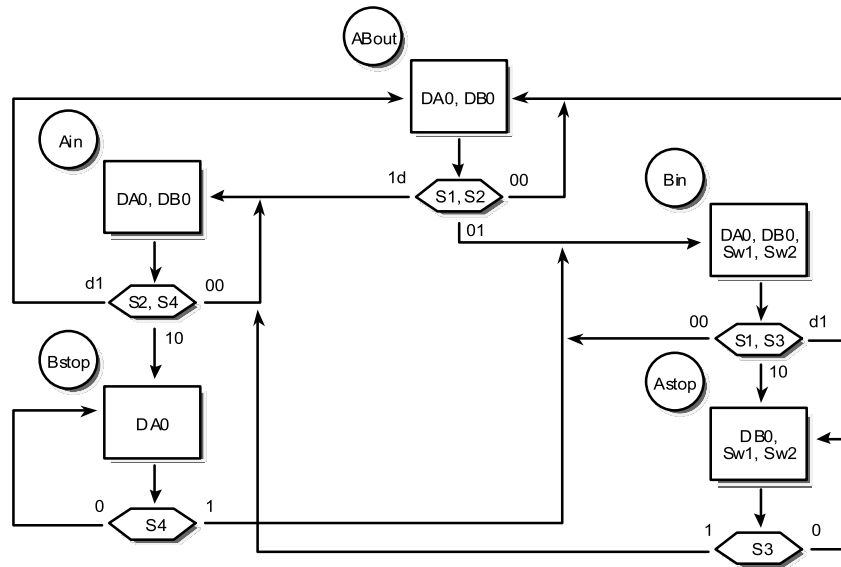
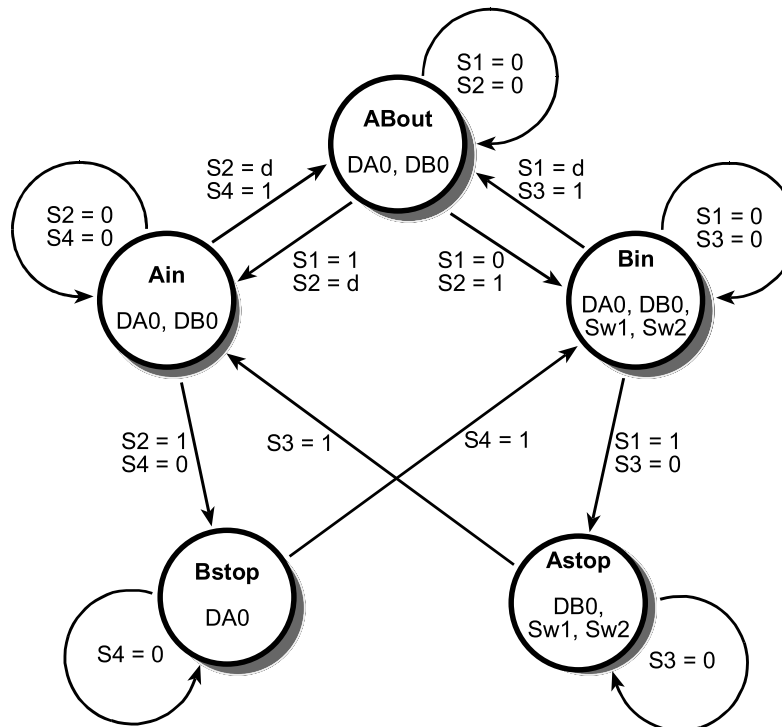
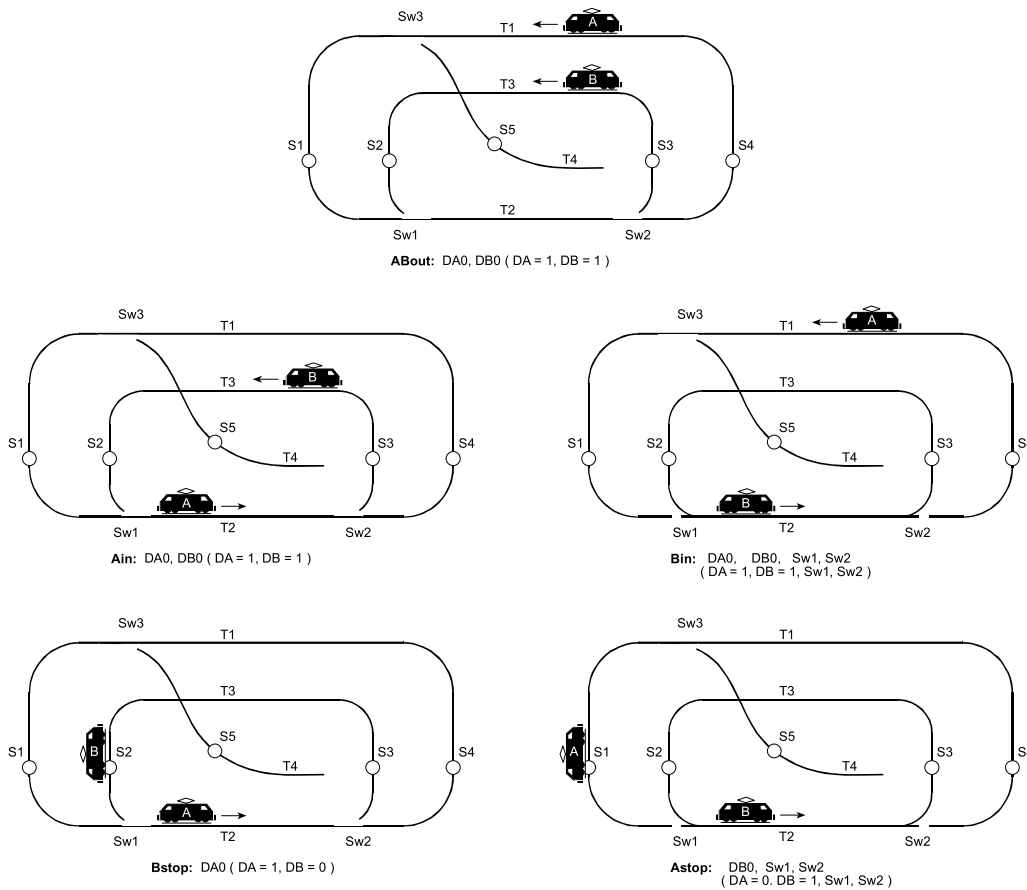

Figure 8.5 Example Train Controller ASM Chart.
Figure 8.6 Example Train Controller State Diagram.
Figure 8.7 Working diagrams of train positions for each state.
We will now examine a working example of a train controller state machine. For this controller, two trains run counterclockwise at various speeds and avoid collisions. One Train (A) runs on the outer track and the other train (B) runs on the inner track. Only one train at a time is allowed to occupy the common track. Both an ASM chart and a classic state bubble diagram are illustrated in Figures 8.5 and 8.6 respectively. In the ASM chart, state names, AAbout, Ain, Bin, Bstop, and Astop indicate the active and possible states. The rectangles contain
A state machine classic bubble diagram is shown in Figure 8.6. Both Figures 8.5 and 8.6 contain the same information. They are simply different styles of representing a state diagram. The track diagrams in Figure 8.7 show the states visually. In the state names, "in" and "out" refer to the state of track 2, the track that is common to both loops.
The corresponding VHDL code for the state machine in Figures 8.5 and 8.6 is shown below. A CASE statement based on the current state examines the inputs to select the next state. At each clock edge, the next state becomes the current state. WITH...SELECT statements at the end of the program specify the